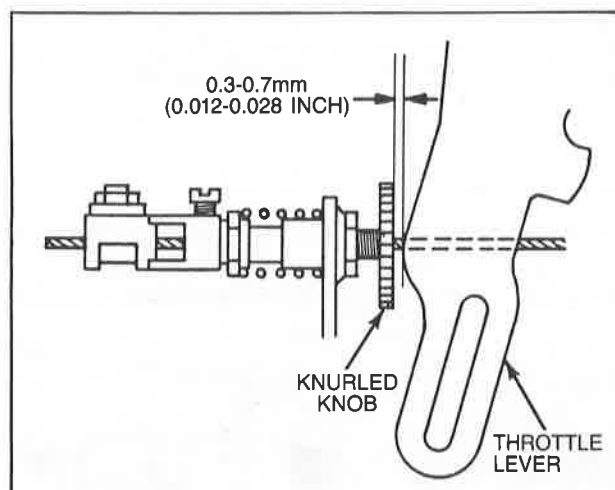

Figure 13 Throttle Advance Cable Gap
6. After idle speed has been adjusted, check for gap of 0.3 to 0.7mm (0.012 to 0.028 inch) between knurled knob on throttle advance cable and throttle lever (Fig. 13). Adjust knurled knob to obtain this gap.